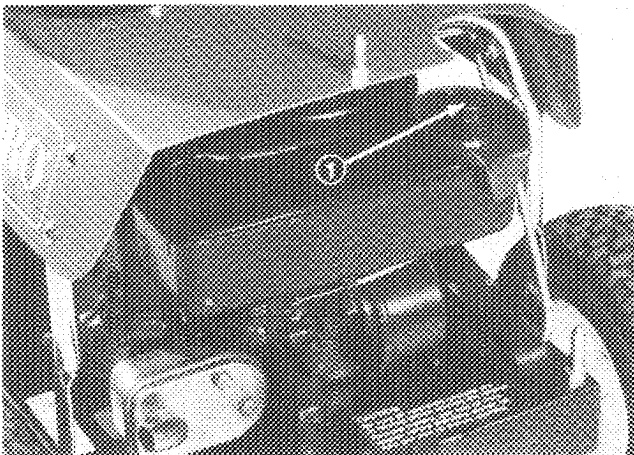

Figure 20
1. Clean area around fuel tank cap so foreign matter cannot enter filler hole when cap is removed. Next, remove cap from fuel tank (Fig. 20).